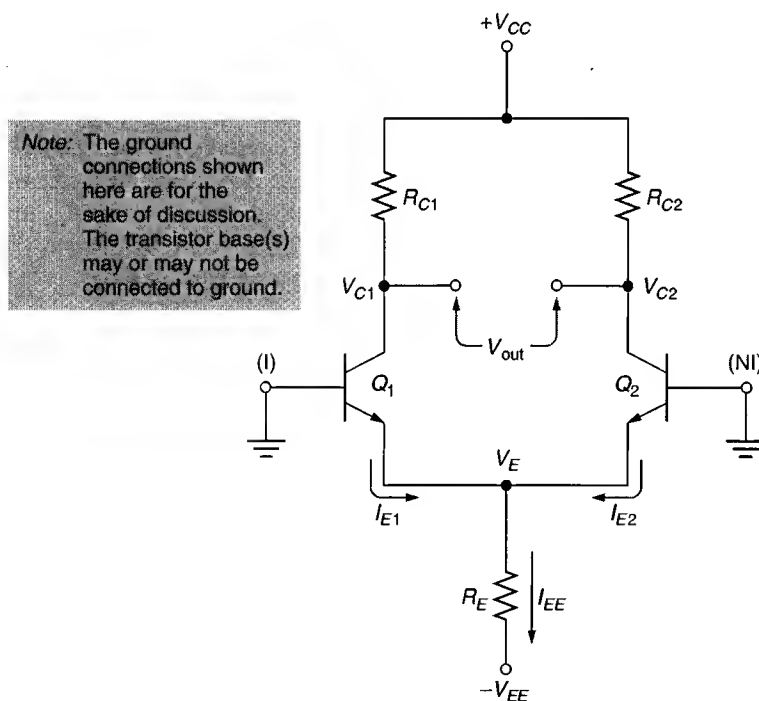

FIGURE 15.16 The basic differential amplifier.
A *differential amplifier* is a circuit that accepts two inputs and produces an output that is proportional to the *difference between* those inputs. A basic differential amplifier is shown in Figure 15.16. Note that the input to Q_2 is identified as the *noninverting input* (NI) and the input to Q_1 as the *inverting input* (I).
Ideally, the Q_1 and Q_2 circuits have identical characteristics. Since they are etched on a single piece of silicon, the transistors are identical. By design, the values of the two collector resistors are also equal. With identical characteristics, the quiescent values of I_E for the transistors are equal. When the two inputs are grounded as shown in Figure 15.16: